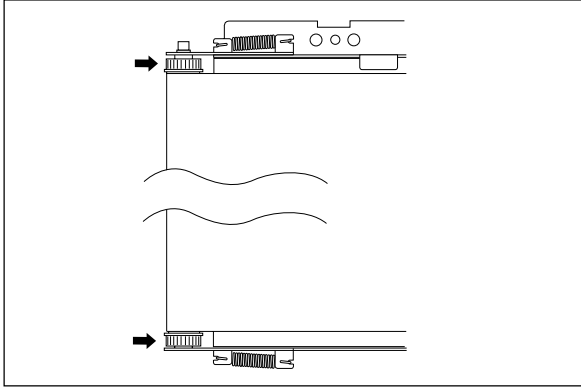

Fig. 13
9) Remove the Endless Sheet. (See Figs. 13, 14, and 15.)
1. Push the sheet roller section inside as shown in Figs. 13 and 14.